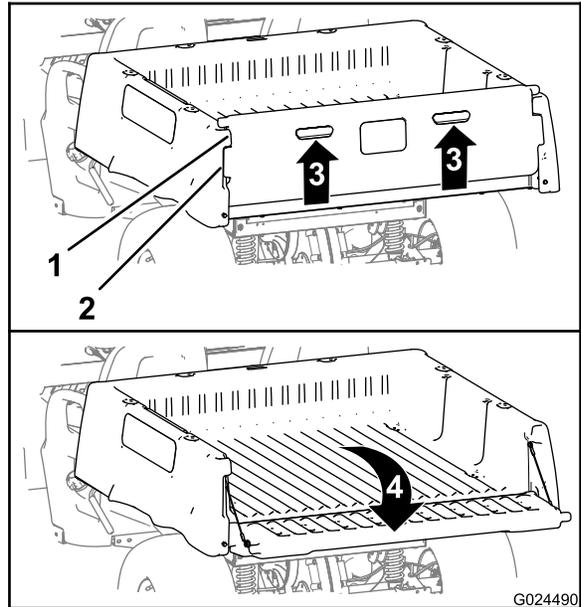

Figure 15
2. Lift up the finger pulls at the back panel of the tailgate (Figure 15).
3. Align the lock flanges of the tailgate with the openings between the tailgate flanges of the cargo box (Figure 15).
4. Rotate the tailgate rearward and down (Figure 15).
6. Rotate the tailgate up and forward until the lock flanges of the tailgate are flush with the tailgate pocket in the cargo box (Figure 15).
7. Lower the tailgate until it is seated in the back of the cargo box (Figure 15).